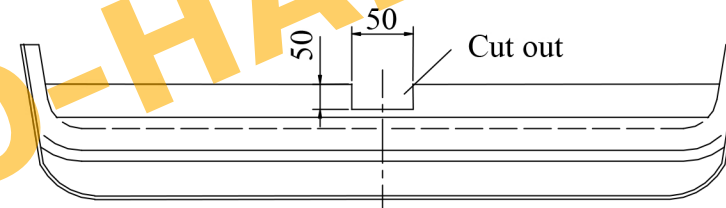

Fig. 2
4. Position the main bar of the towing hitch (pos. 1) to the trunk and fix it with the bracket (pos. 5) through the holes (pos. A) using bolts M10x35mm (pos. 9).
5. Position the sleeves L=58mm (pos. 6) at the bottom of the car, and then fix it through the holes (pos. B) using bolts M10x90mm (pos. 8) and large washers (pos. 10).
6. From the trunk side drill holes $\varnothing 11\text{mm}$ through the towing hitch holes (pos. C) and fix it using bolts M10x35mm (pos. 9) and large washers (pos. 10).
7. Cut the bumper according to fig. 2 and then reassemble it.